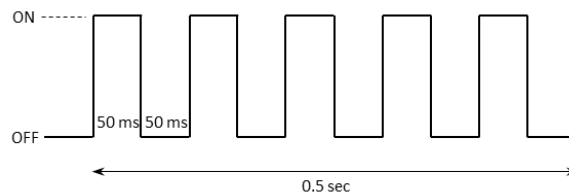

Figure 1-5: The LED pattern for **GREEN** or **RED** after the POST.
- a. If the POST passes, **GREEN** is toggled ON and OFF every 50 ms for 0.5 sec, as shown in Figure 1-5.
- b. If the POST fails, **RED** is toggled ON and OFF every 50 ms for 0.5 sec, as shown in Figure 1-5.